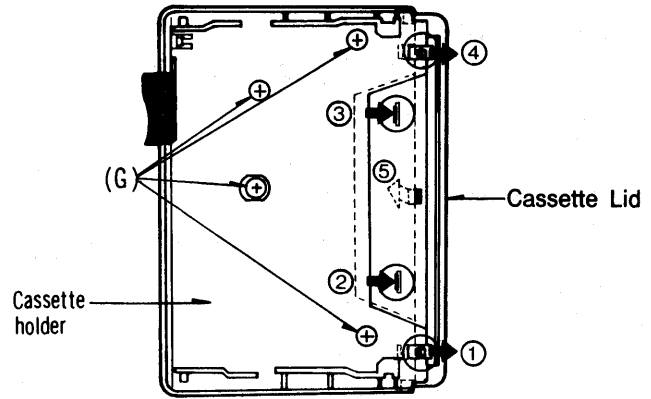

Fig. 6
**● Removal of the LCD P.C.B. (Fig. 6)**
1. Remove the screws (G) (1.4×3.5)mm×4.
2. Remove the Cassette holder in the direction of arrow (1), (2), (3), (4), (5).